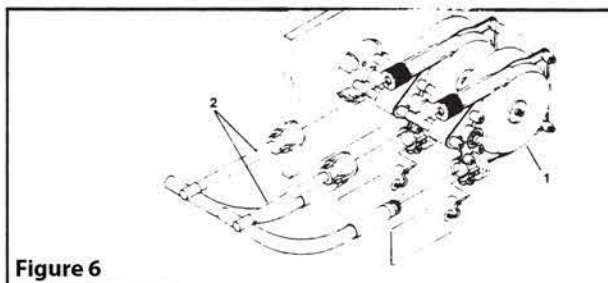

Figure 6
4. Feed the cable ends into the QC Converters until they contact the internal gear of the helm, then turn the steering wheel counterclockwise to draw the cables fully into the helm (see figure 6). Continue turning the wheel until the end fittings of the cable are entered into the QC Converters, and the wheel cannot be turned further. During this you may hear a "click" as the locking mechanisms of the QC Converters engage the end fittings of the cables. Turn the steering wheel fully in the other direction until it cannot be turned any further, and check that the cable end fittings are retained inside the QC Converters.